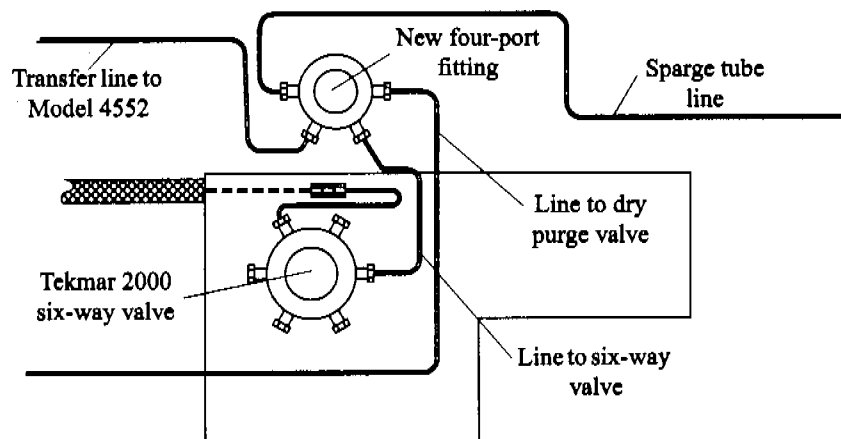

Figure 3.15. Tekmar 2000 valve oven with four-port fitting
Install a four-port fitting in the Tekmar 2000 valve oven using the following procedure (Figure 3.15).
5. Attach the short line connected to the six-way valve to the new four-port fitting's bottom right port (Figure 3.15).